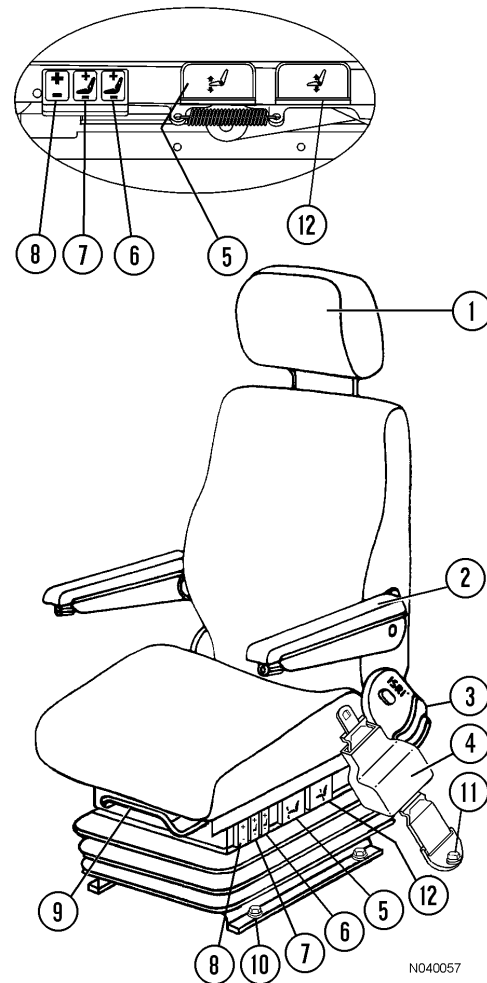

FIGURE 32-10. OPERATOR SEAT
1. Headrest: Move up, down, fore, or aft by moving headrest (1, Figure 32-10) to desired position.
3. Backrest: Lift handle (3) to release and select backrest angle; release control handle to set.
4. Seat Belt: Operator should always have seat belt (4) buckled in place and properly adjusted whenever vehicle is in motion.
5. Seat Slope: Lift lever (5) and hold to adjust the slope of seat. Release lever to lock adjustment.
6. & 7 Air Lumbar Support: Each rocker switch (6 or 7) controls an air pillow. Switch (7) controls the lower air pillow and switch (6) controls the upper air pillow. To inflate, press on the top of the rocker switch and hold for desired support, then release. To deflate, press on the bottom of the rocker switch and hold for desired support, then release. Adjust each pillow for desired support.
8. Seat Suspension: Move rocker switch (8) up to increase ride stiffness and down to decrease ride stiffness.
9. Horizontal Adjustment: Lift control lever (9) and hold. Bend knees to move the seat to a comfortable position. Release the control lever to lock the adjustment
10. Seat Height: Lift lever (12) and hold to adjust the height of the seat. Release the lever to the lock adjustment.
1. Remove cap screws (10, Figure 32-10) and hardware that secure the seat base to the riser. Remove cap screws (11) that secure tether to floor.
1. Mount the seat assembly to the seat riser. Install cap screws (10, Figure 32-10), lock washers, flat washers and nuts. Tighten the cap screws to standard torque.
2. Fasten tether straps to floor with cap screws (11), flat washers and lock washers. Tighten the cap screws to standard torque.